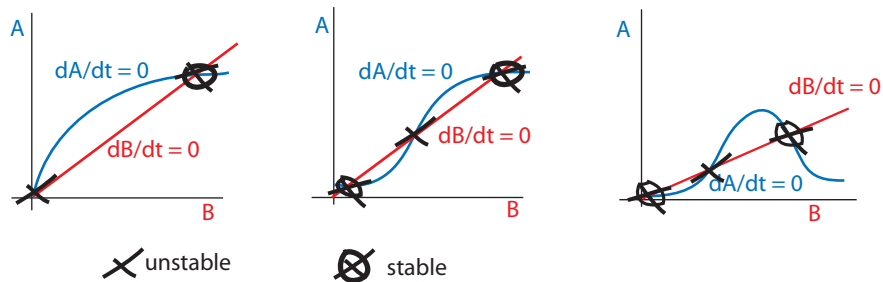

Figure 2: Schematic for questions 1.2 through 1.3
- 1.2 Consider the nullclines in figure 2. Assume dA/dt is negative for large A and dB/dt is negative for large B . Identify all critical points with an x . Put a circle around the x for each critical point if it is stable. (5 pts)